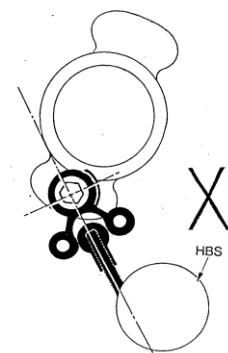

fig HB8
- Offset of the nipple HBNIP: if the handlebar itself, or the control levers/cables, are set too far forward, they may, on folding, foul against the front wheel and so prevent the nipple from fully entering the catch (i.e. as per fig HB8). To remedy, either reset the handlebar or levers further back (i.e. further out when folded), or unscrew the nipple so that it is further from the support tube, HBS: the nipple must be able to enter the catch HBC fully, as per fig HB7.